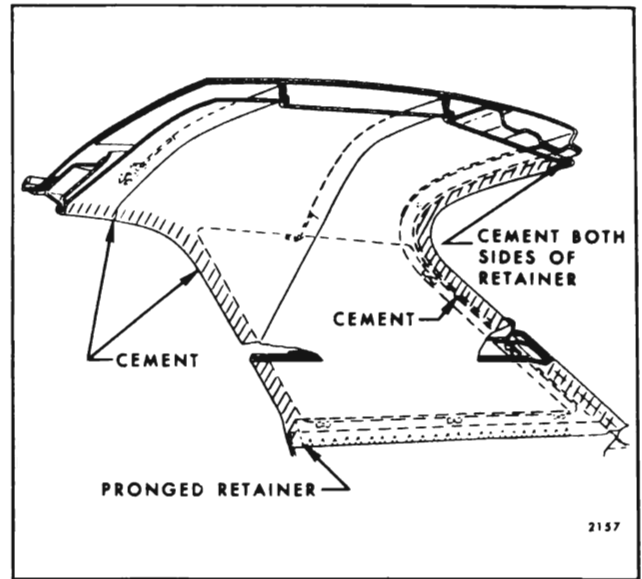

Fig. 11-5—Headlining Installation at Roof Extension
utilized, the headlining is tacked or stapled to a trim stick in the roof extension area (See Fig. 11-2). The upper quarter trim is retained by clips (See Fig. 11-2). On "E" Body Styles the upper quarter trim is further retained by cementing the forward edge to the side roof rail. On styles where the headlining covers the entire roof extension area, the headlining is retained along the rear compartment shelf by a pronged retainer (See Fig. 11-5).
2. Apply approved trim cement to headlining attaching surface at windshield, side roof rail and back window or back body opening. On styles that utilize pinchweld finishing lace be certain cement is applied to both sides of retainer at windshield and back window or back body opening. (View "E", Fig. 11-1 and Fig. 11-5).